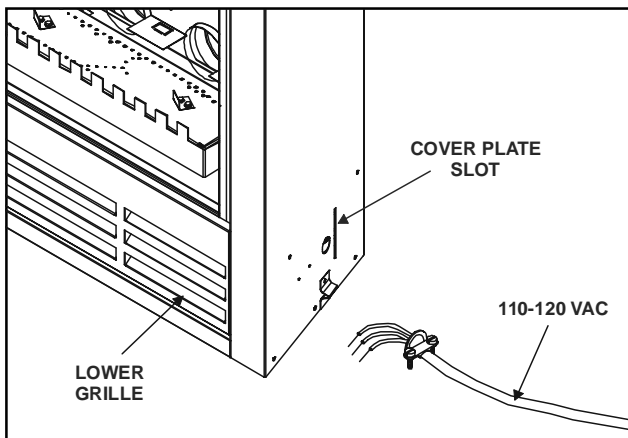

FIGURE 2
1. Attach the Romex clamp to the electrical access hole on the right side of the fireplace. See Figure 2.